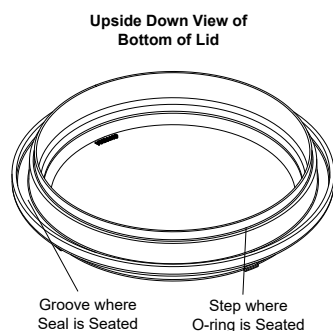

Figure 14. Placement of Blue Pressure Test O-ring
2. Place the blue o-ring on the step located $\frac{1}{4}$ " from the bottom of the lid. See Figure 14.